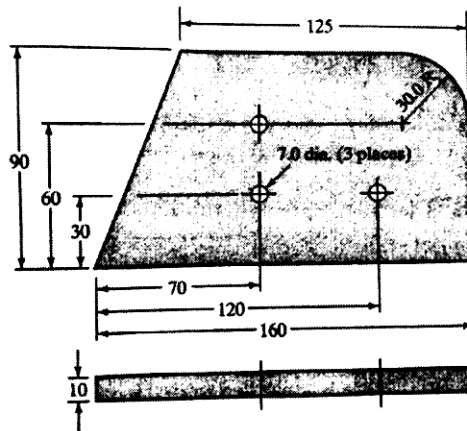

Figure 1
- b) Three holes 7 mm diameter, are to be drilled on the aluminium work piece using a CNC drill press as shown in Figure 1. The feed is 0.05 mm/rev, the spindle speed is 1000 rpm. Write a manual part programme for the above drilling operations.